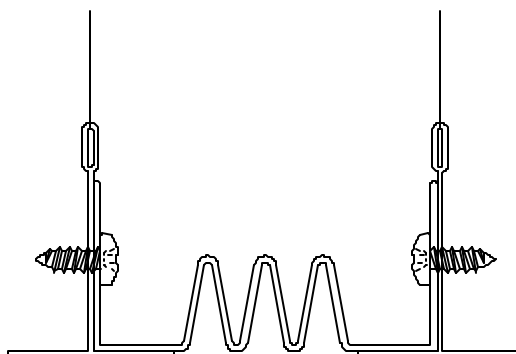

Figure 4
STEP 4. Attach the other side of the seal to the opposite tee, using the screws provided by the factory (Figure 4).